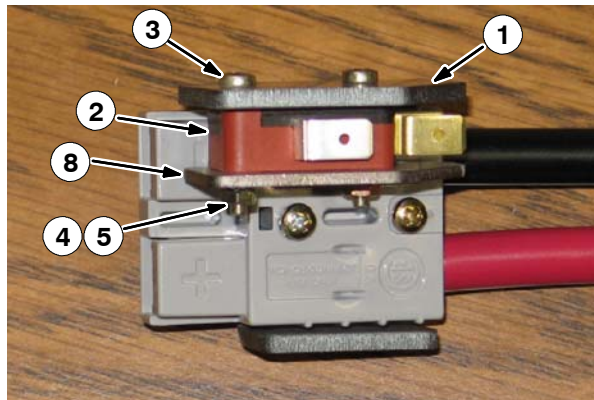

FIG. 2
2. Use two pan screws (3), two lock washers (4), and two hex nuts (5) to install the switch (2) and the plate (8) onto the connector bracket (1). Refer to Fig. 2.